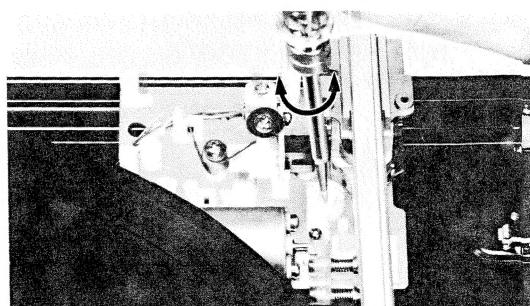

Fig. 19
(1) With the elevator lever lifted up, adjust the height from the record surface to the cartridge body using cam "A". (Fig. 19)